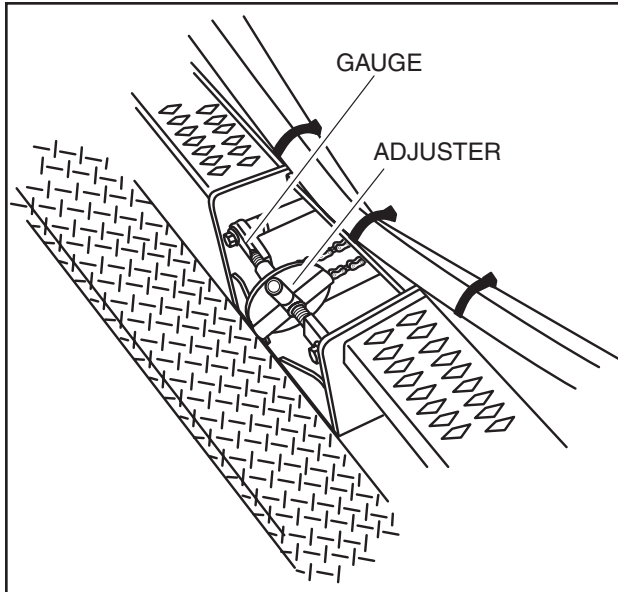

FIGURE 3-19. CROWN ADJUSTMENT
1. To obtain the crown or valley desired, loosen hex head bolt (see Figure 3-19). Also loosen nut on seat bracket on right side of screed. Remove crown handle and insert into adjuster. Push down for positive crown or pull up for negative valley.